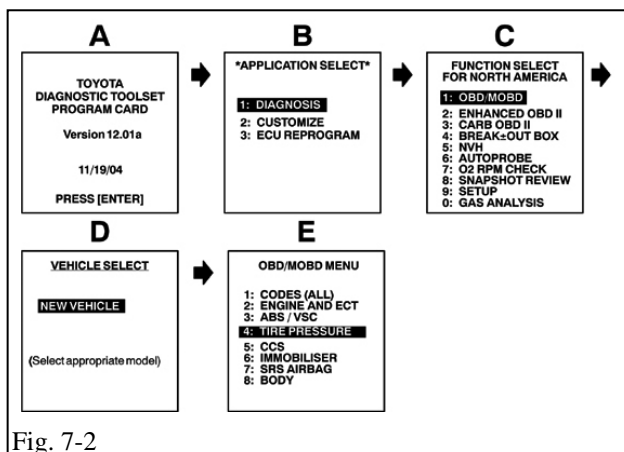

Fig. 7-2
- (d) Following the display on the hand-held tester, select the “DATA LIST.” (Fig. 7-2)